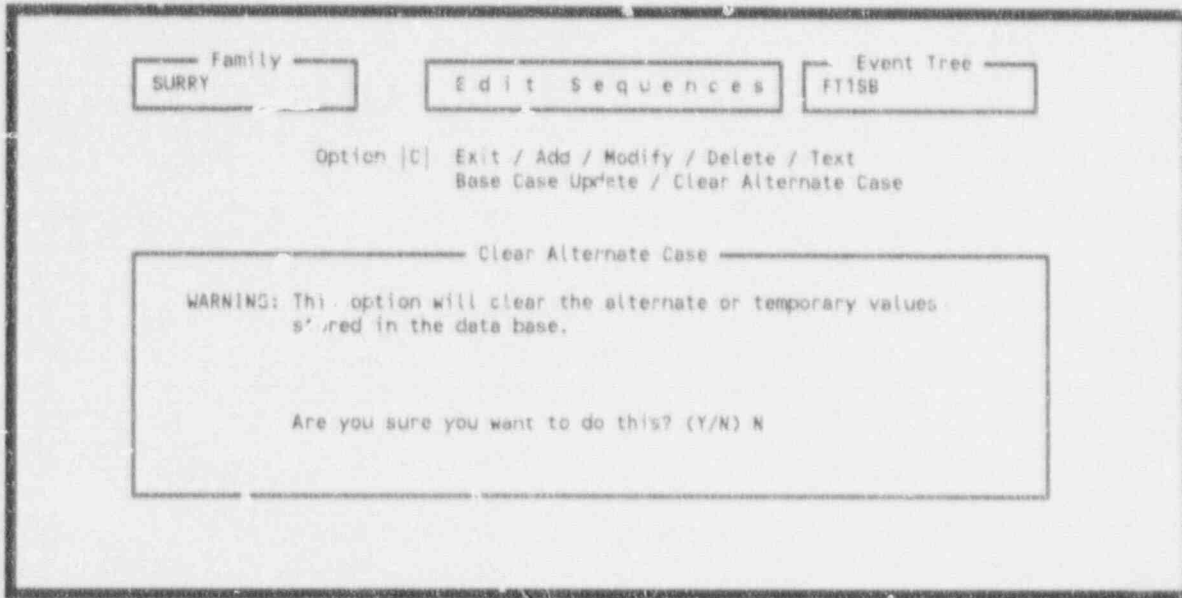

Figure 183. Clear alternate case for selected sequence(s).
9.3.6.7 Clear Alternate Case. This option clears all alternate case information for the specified sequence(s). To invoke this option, type a <C> in the option field, highlight the desired sequence and press <Enter>. A warning will be displayed (see Figure 183). To continue enter a <Y> and press <Enter>, otherwise enter an <N> and press <Enter> to terminate the process.